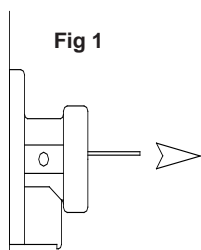

Fig 1
2. Inch the wire from the exit of the wire guide on the feed unit as Figure 1. Ensure that it does not short out on any machine panels.